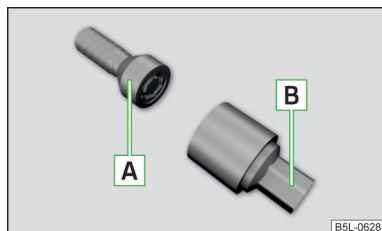

Fig. 120
The anti-theft wheel bolts protect the wheels from theft. This can only be » Fig. 120 loosened / tightened with attachment [B].
- » Insert the attachment [B] » Fig. 120 as far as it will go on the anti-theft wheel bolt [A].
- » Insert the wheel wrench onto the wheel bolt to the stop. Use the associated attachment for the anti-theft wheel bolts » Fig. 120 on page 110.